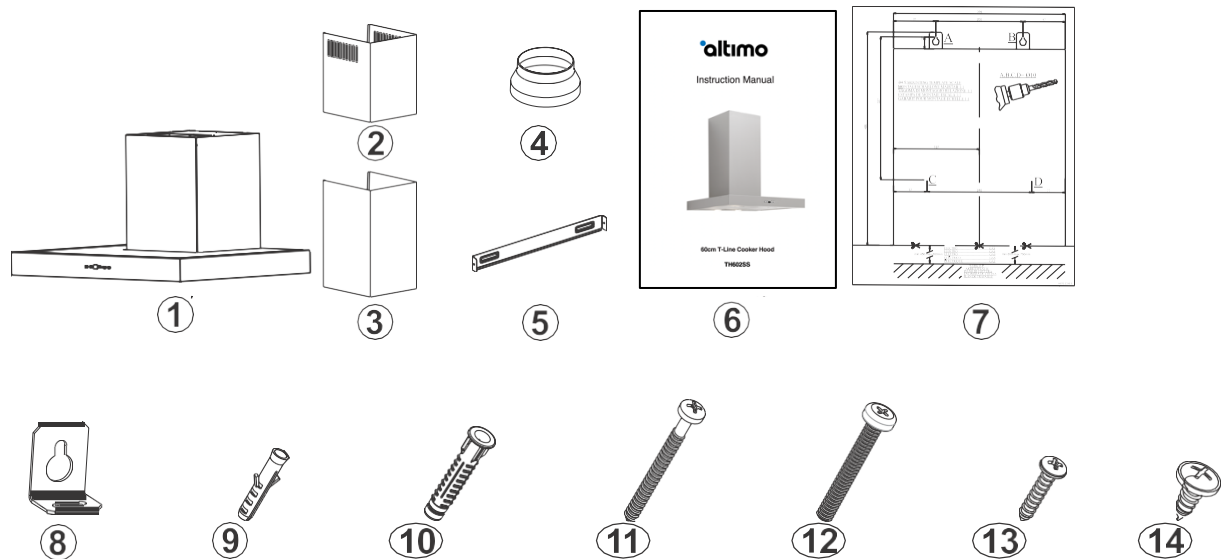

Fig. 9
1. Plan where you want to mount your hood in conjunction with the installation template. Make sure you adhere to the minimum height requirement from electric or gas cook tops (fig 9).